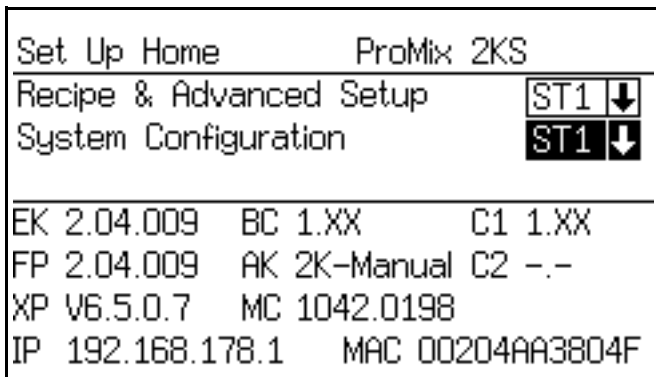

FIG. 93. Set Up Home Screen
1. On the EasyKey press the Setup  key to access the Set Up Home screen. Select "System Configuration" to access the configuration screens. FIG. 93.